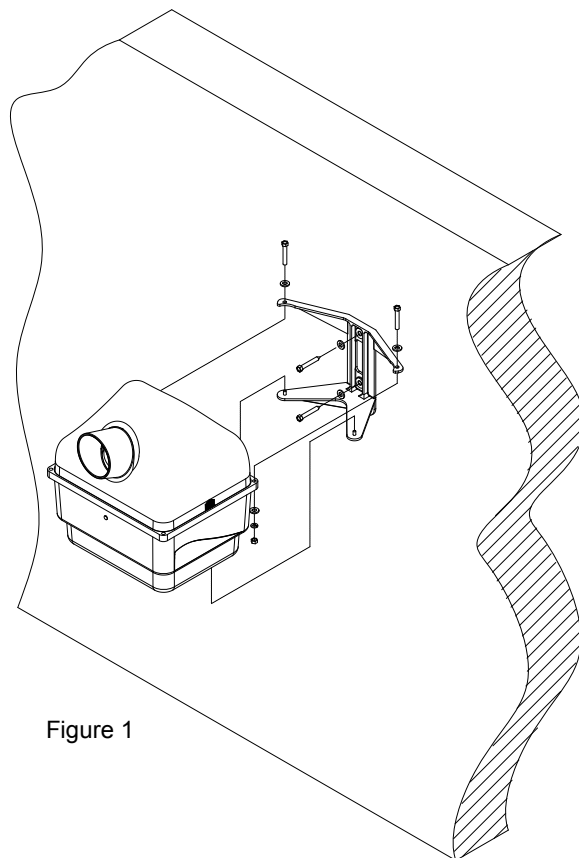

Figure 1
1. Referring to figure 1, using the mounting template, mark the mounting holes on the wall. Ensure that the mounting screws will penetrate wall-studs.